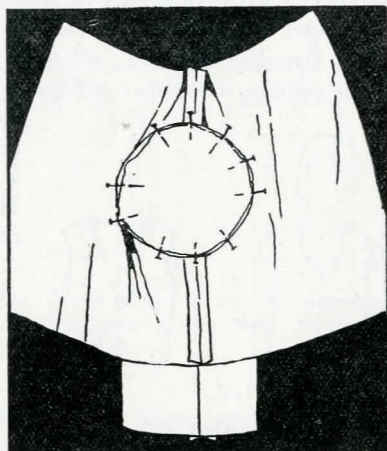

FIG. 3.—Pinning the sleeve in position.
c. Pin the highest and lowest points of sleeve and armscye together, and pin the sleeve to the quarter points of the armscye so that there is only slight fullness in the lower half of the sleeve. Place the pins at right angles to the armscye edges and pointing toward the cuff of the sleeve (Fig. 3).